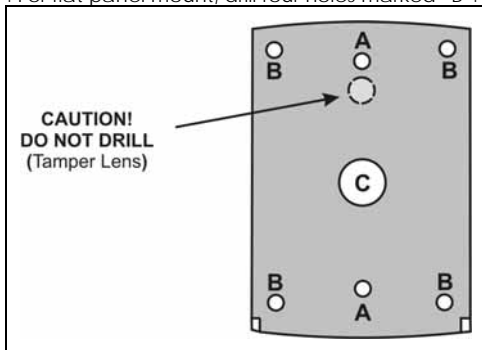

Figure 2: Drilling Holes Identification
- 2) Depending on the type of installation, gang box or panel mount, drill the respective holes in the rear cover. See Figure 2 for details. For gang box mounting, drill two holes marked "A". For flat panel mount, drill four holes marked "B".